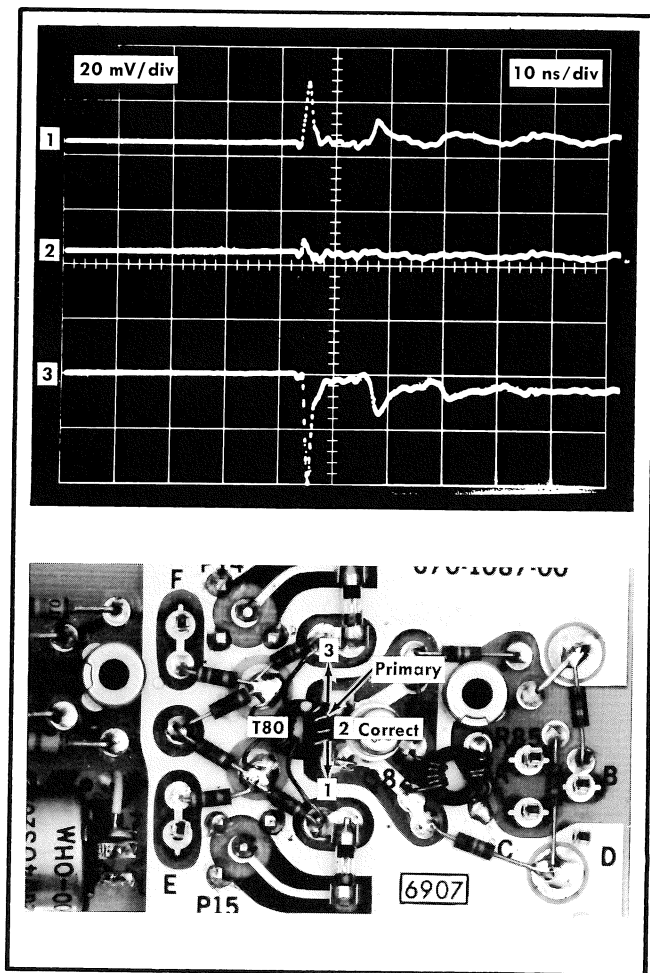

Fig. 5-6. Replacement T80 adjustment for minimum kickout.
- d. Adjust the Time Position controls (indicator oscilloscope) to observe the kickout from the Type S-5 on the test oscilloscope, see Fig. 5-6. Do not use a metallic or sharp tool to move the winding. The narrow, flat end of a Walsco No. 2543 plastic tool or other non-metallic tool may be used, for only a minimum of wire movement is necessary. Vary the setting of the indicator DC Offset control to null the kickout, then vary the position of the wire at either end of the winding. If this does not accomplish minimum kickout, move the turns individually on the core for minimum kickout. The final adjustment requires very slight wire movement. It is more important that the trailing portion of the strobe be nulled than the leading. See Fig. 5-6, display 2, for correct display.